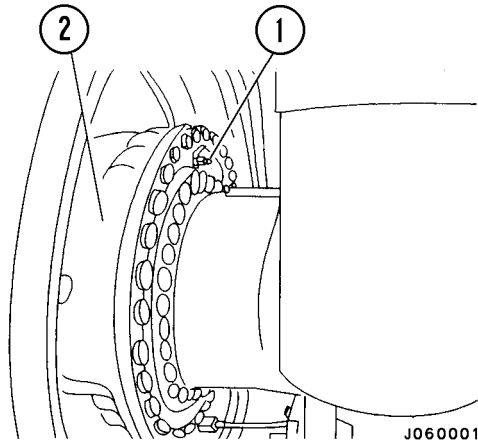

FIGURE 4-14. BRAKE HOUSING BLEED PLUG
2. Continue this procedure until no more bubbles come out from the air bleed plug hole, then bleed the air from the wheel plug (1, Figure 4-14).